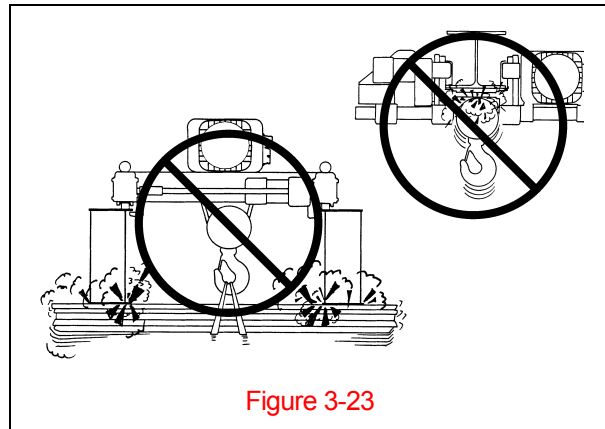
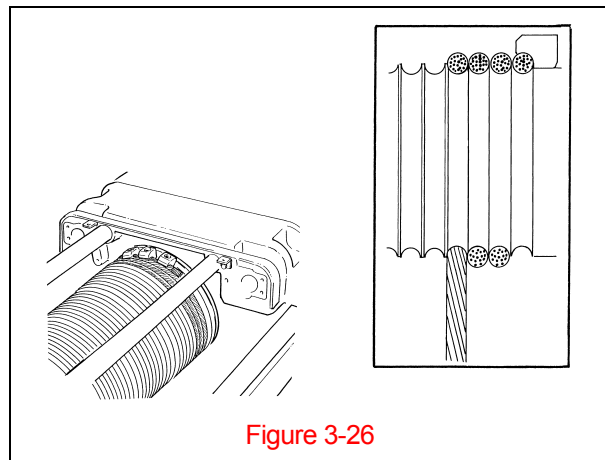

Figure 3-23
Figure 3-26
- 2) **▲WARNING** The upper Limit Switch (B) MUST be adjusted to prevent the collision of the load and/or Bottom Block with any part of the hoist, structure or girder(s) (**Figure 3-23**).
- 3) **▲WARNING** NEVER adjust the upper Limit Switch (B) so that the Bottom Block can rise above the position dictated by dimension “E” in **Table 2-5**.
- 4) **▲WARNING** The adjustment of the lower Limit Switch (C) MUST always ensure a minimum of 3 turns of wire rope completely wound on the drum (**Figure 3-26**).